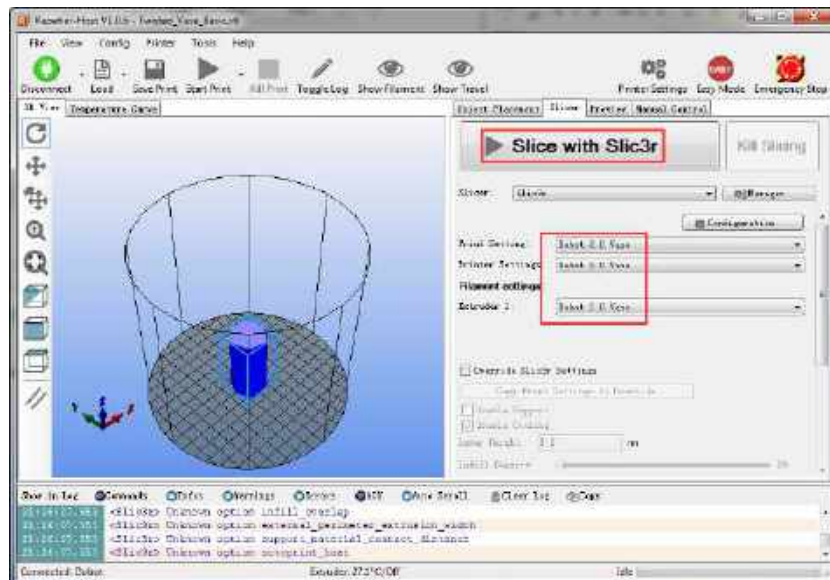

Figure 5.129 Start to slice
6. Click **Slici with Slic3r** on the **Slicer** tab of the **Repetier Host** page, as shown in Figure 5.129.